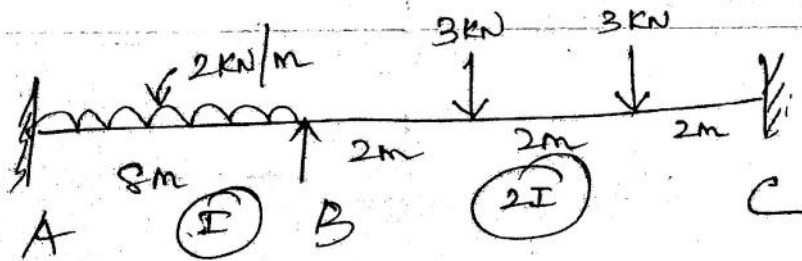

Figure-7
7. Analyse the continuous beam shown in figure -7 by stiffness matrix method.